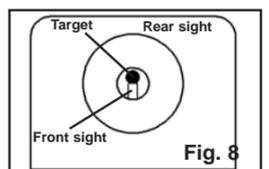

Fig. 8
• The airgun is correctly aimed when the front sight is positioned exactly in the center of the rear sight. The bulls-eye should appear to rest on the top of the front sight (Fig. 8).